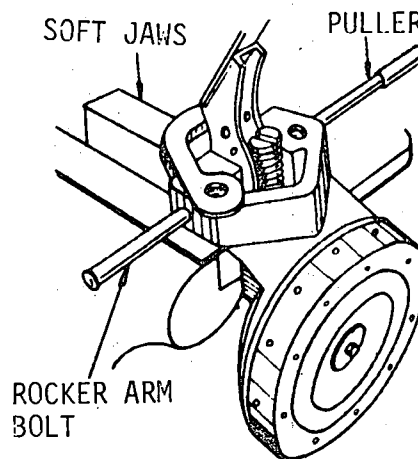

Fig. 4
- c) Remove the bolt and take out the lever, the rocker arm (fig. 4) and the rocker arm spring.